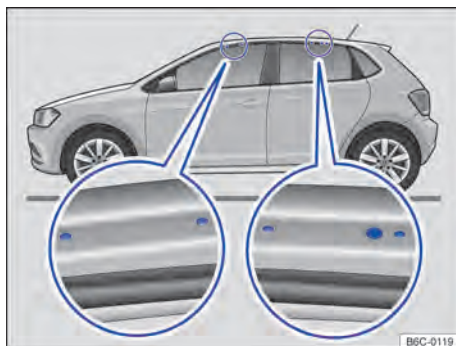

Fig. 156 Fastening points in roof carrier base supports (both sides).
The holes or markings of fastening points in base supports are clearly visible upon opening the vehicles front and rear doors, located next to the roof pillars → Fig. 156 (magnifying glass). The rear fastening holes or markings are located below the roof pillars → Fig. 156 (right-hand side magnifying glass).
- Only fasten base supports to the markings illustrated in the figure → Fig. 156.